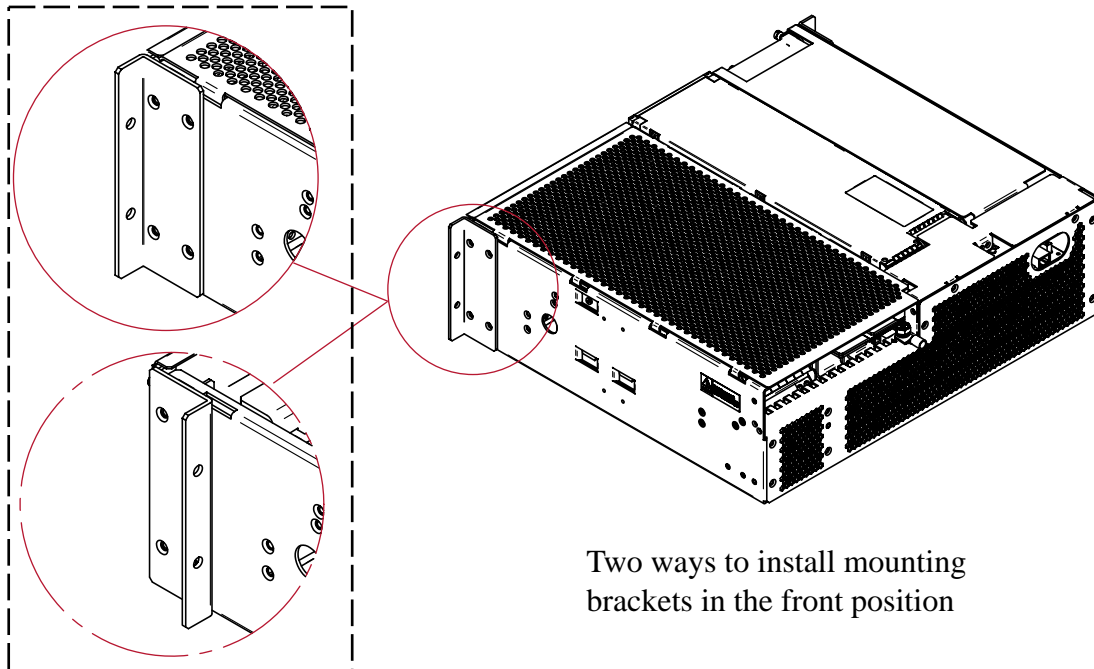

Figure 4-1 System Mounting - Cabinet
1. Determine the installation position according to system measurement. Refer to the Appendix A for details. Re-install the mounting bracket in another position if necessary. Refer to the figure 4-1 below.